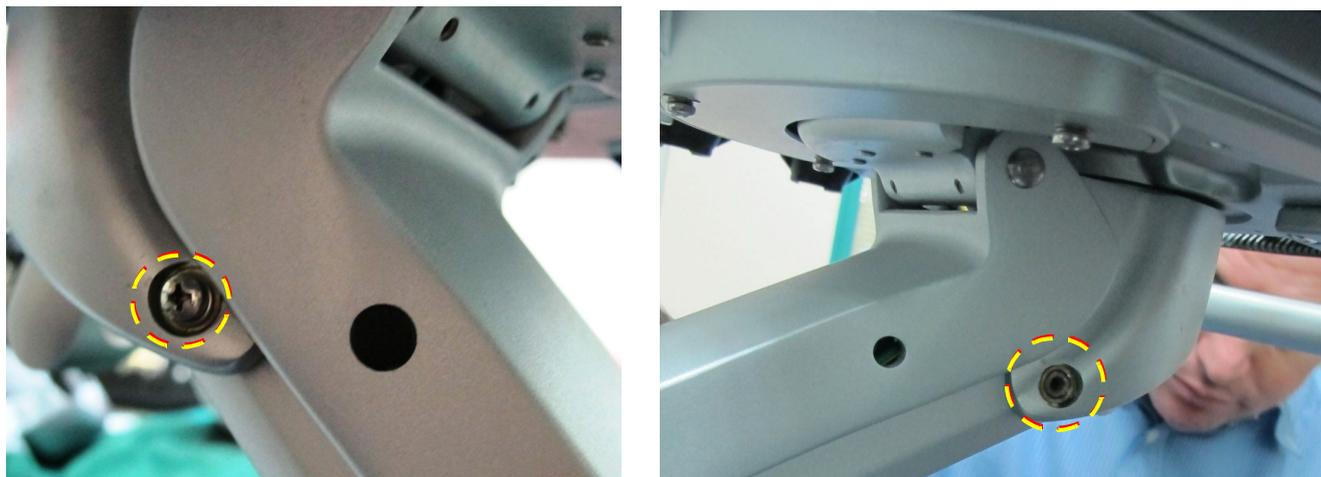

Figure 8-106 Lower Arm Securing Screws
- 2.) Remove the lower arm securing screws - on either side of the lower arm - see Figure 8-106.
- 7.) Return the lower arm securing screws to secure the shaft - refer to Figure 8-106 on page 8-85.